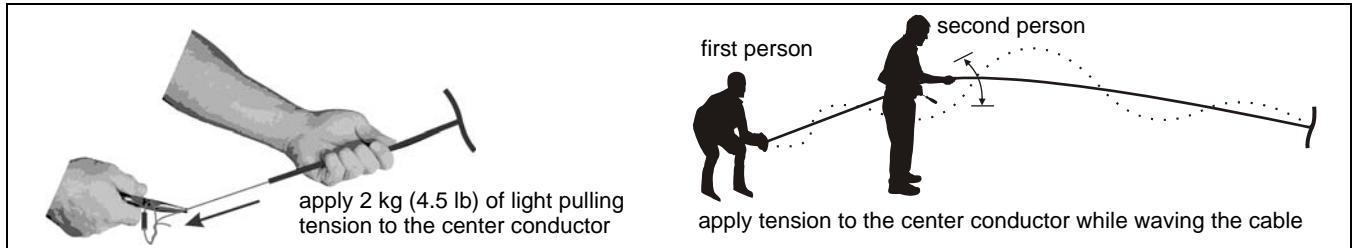

Figure 13: Applying tension to the center conductor / Waving the sensor cable
5. At one end of the sensor cable, the first person firmly holds the sensor cable by the black jacket with one hand, while using the other hand to grip the center conductor with a pair of pliers (see Figure 13:).